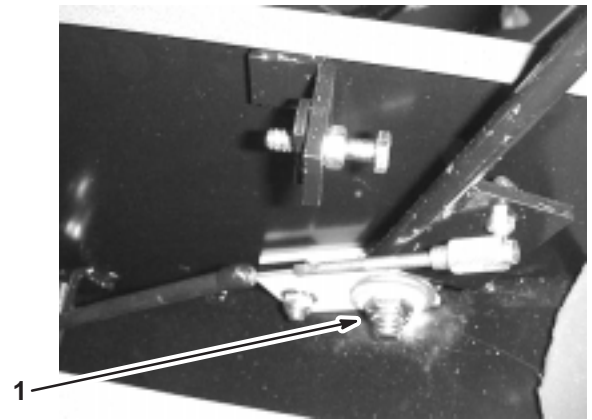

Figure 45
4. Tighten the throttle pivot lock nut (Fig. 45)